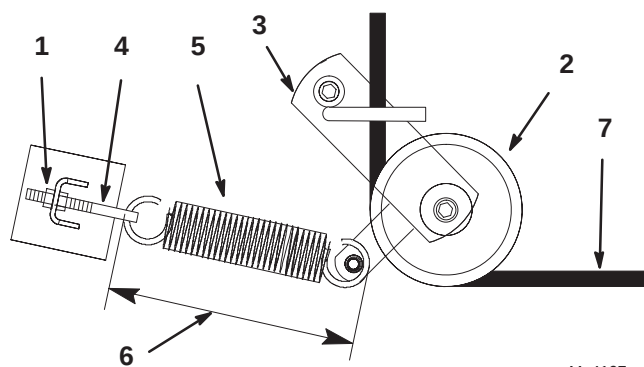

Figure 60
3. Loosen outer nut on spring eye bolt (Fig. 60).
5. Remove spring loaded idler pulley (Fig. 60).
6. Route new belt through idler arm (Fig. 60).
8. Retighten outer nut on spring eye bolt (Fig. 60).
Note: Check spring length. The spring should measure 9-3/8 in. $\pm$ 1/8 in. (238 mm $\pm$ 3 mm) when installed. Adjust if it does not (Fig. 60).